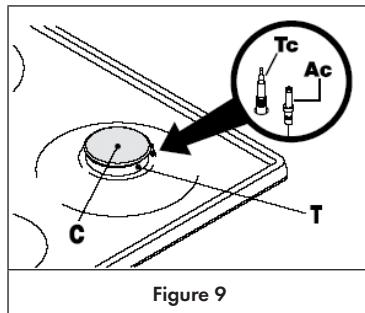

Figure 9
## Automatic electrical ignition (only certain versions, see figure 9, ref. Ac)
## **Lighting of burners equipped with safety thermocouples (only certain versions, see figure 9, ref. Tc)**
1. In case burners are fitted with Flame Safety Device (FSD = Thermocouple, figure 9, Tc), repeat operations described previously.
- The surface of the hob, pan supports, enamelled burner caps (C) and burner heads (T) (see figure 9) need to be cleaned after each time they are used with warm soapy water, rinsed and then dried well to keep them in good condition. Never clean when the top and components are still warm.
- Check that the heads burners and the relative burner caps are correctly positioned in their housings (see figure 9).